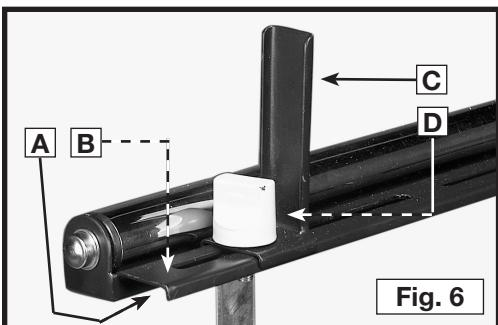

Fig. 6
1. Insert the square nut (supplied with the extension fence) in the opening (A) Fig. 6 of the extension roller shelf (B).
2. Place the extension fence (C) on top of the shelf (B) and align the hole in the fence with the hole in the square nut.
3. Insert the lock-knob (D) through the fence (C) and the shelf (B) and into the square nut.